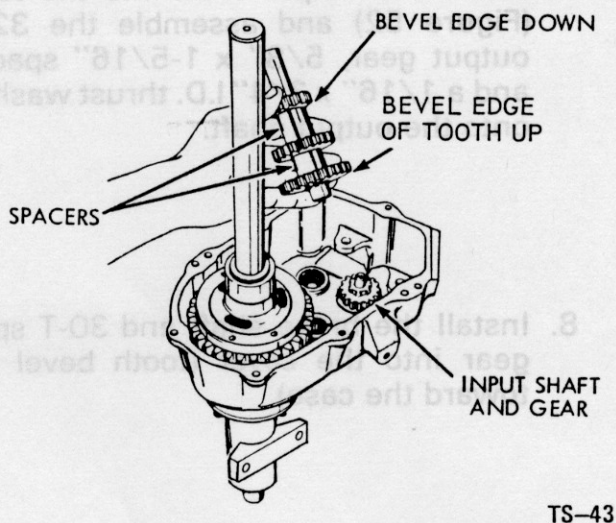

Figure 50 - Install Three Gear Cluster
5. Install the three gear cluster idler shaft and gears as follows: (Figure 50)